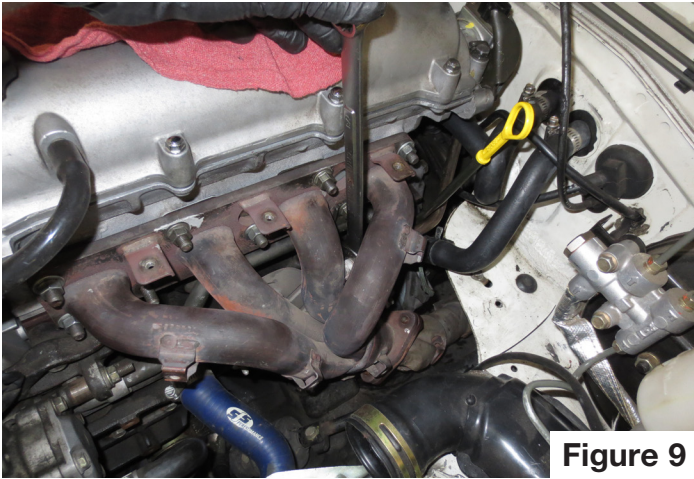

Figure 9
- 9) Loosen the EGR tube nut using a 7/8" or 22mm wrench. **Figure 9.**